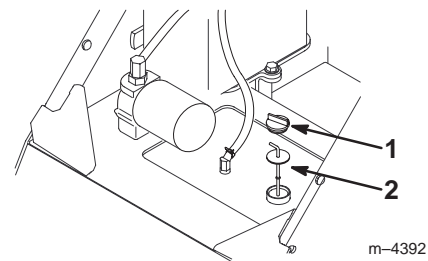

Figure 6
5. Clean the area around the filler neck of the hydraulic tank (Fig. 6).
6. Remove the cap from the filler neck and check the fluid level on the dipstick (Fig. 6).